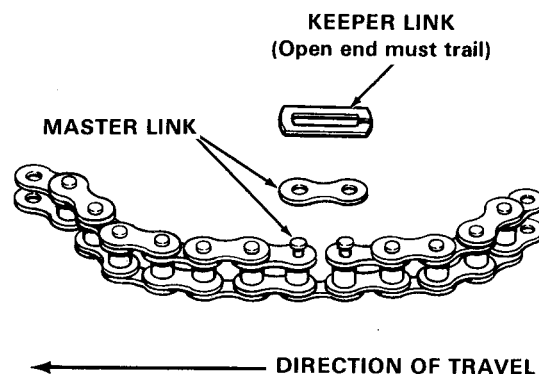

Figure 8. Roller Chain Replacement
3. Locate master link (figure 8) in chain to be replaced.
4. Check position of open end keeper link (figure 8) so that replacement link can be installed in the same manner. Open end of keeper link must be in trailing position when chain is operating in direction required for forward motion of snowthrower.